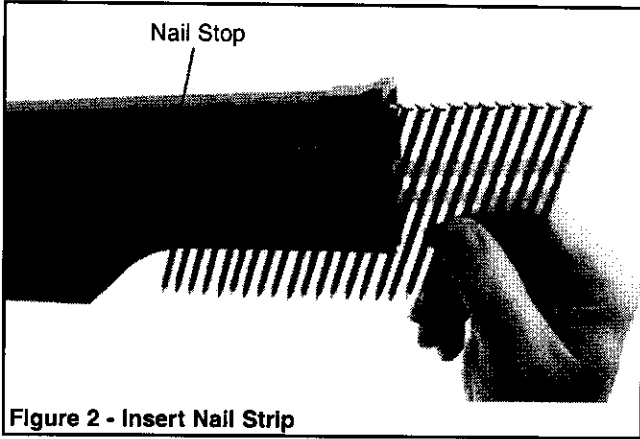

Figure 2 - Insert Nail Strip
Refer to Figures 2, 3 & 4, page 4.
- Insert one or two nail strips into the slot located on the end of the magazine. Feed strip(s) past nail stop (see Figure 2).